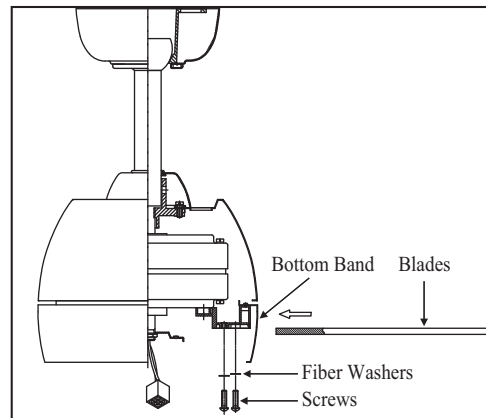

Figure 14
1. Insert the blade through the slots in the bottom band. (Fig. 14)